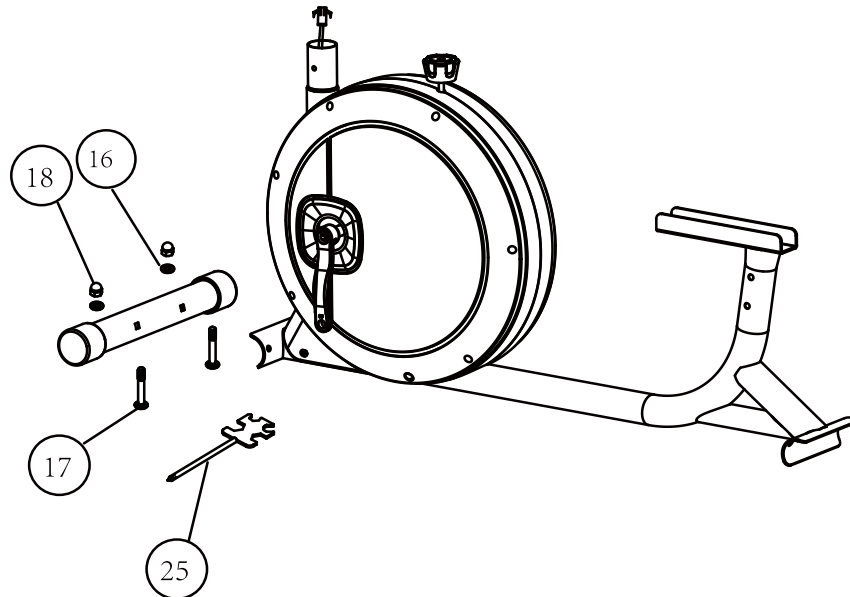

Figure 1
1. Use 2 No.17 carriage screws and No.16 arc washer respectively, No. 18 high cover, use No. 25 opening with a cross wrench to fix the mainframe group of No. 01 and the front foot tube group of No. 02 together. As shown in Figure 1.